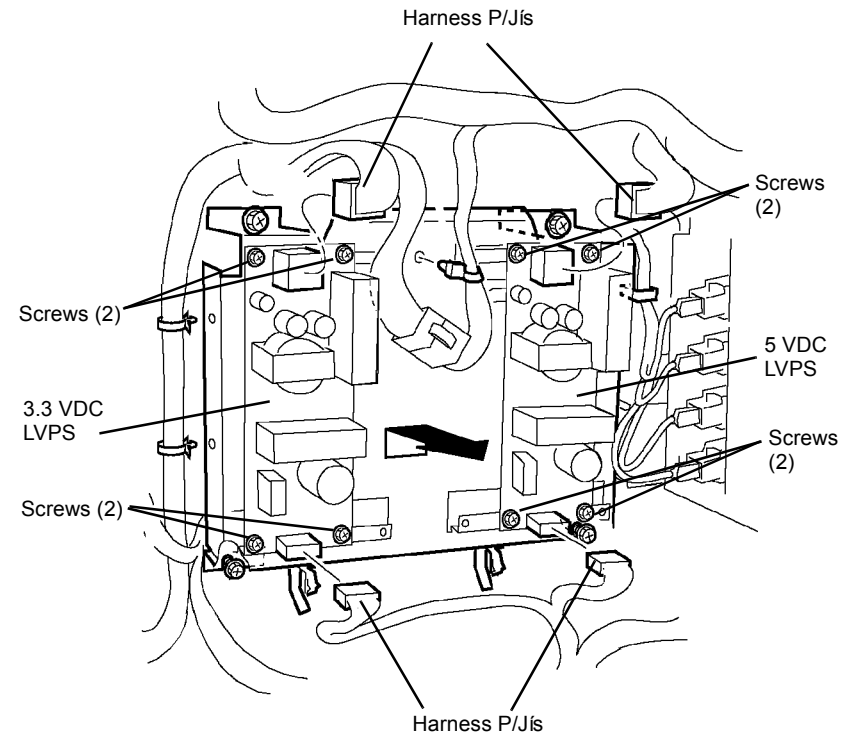

Figure 1 Removing LVPS
3. Remove appropriate LVPS (Figure 1).
- a. Disconnect appropriate Harness P/JIs (2).
- b. Remove appropriate Screws (4) and remove LVPS.